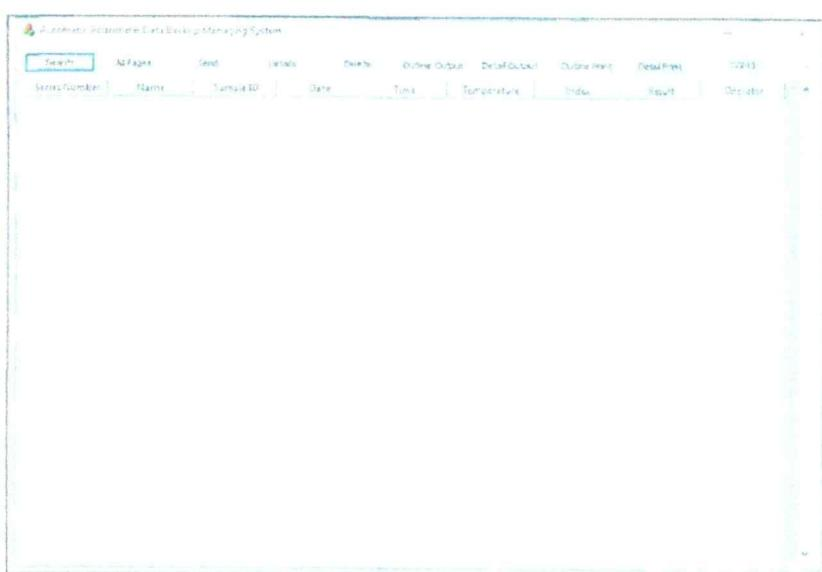

Fig. 40
5. Open the upper computer software, as shown in Fig. 40, select the COM port connected to the computer, and the upper computer configuration is complete.